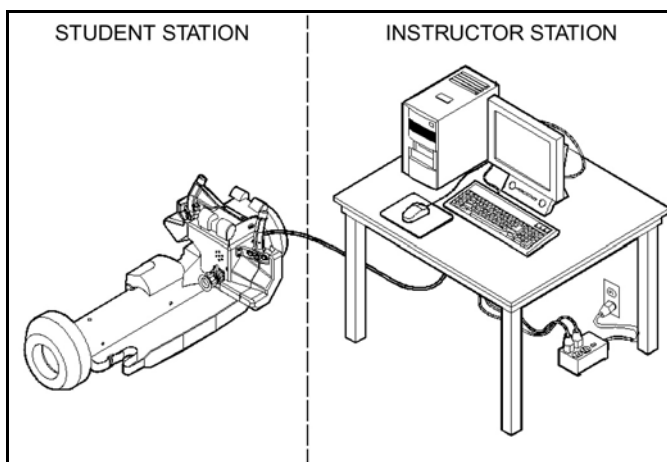

Figure 3-1. Basic skills trainer.
a. **Basic Skills Trainer.** The BST is a self-contained, computer-based, indoor training device. Its purpose is to train students and qualify gunners on the Javelin. The BST consists of two major assemblies: an IS and an SS (Figure 3-1). The IS is a personal computer (PC) equipped with special hardware and software, and the SS consists of a SCLU and an MSR. A cable links the SS with the IS for transfer of video, power, switch, and SS motion signals between the two.